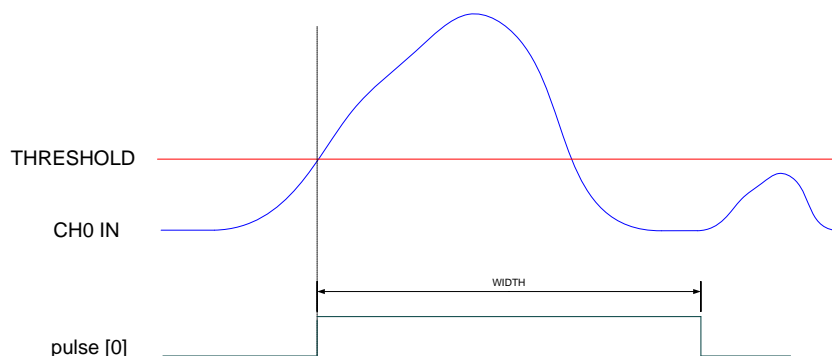

Fig. 9.12: Channel pulse signal
- a pulse of configurable width (see Fig. 9.12). The width parameter can be set at register address 0x1n70.